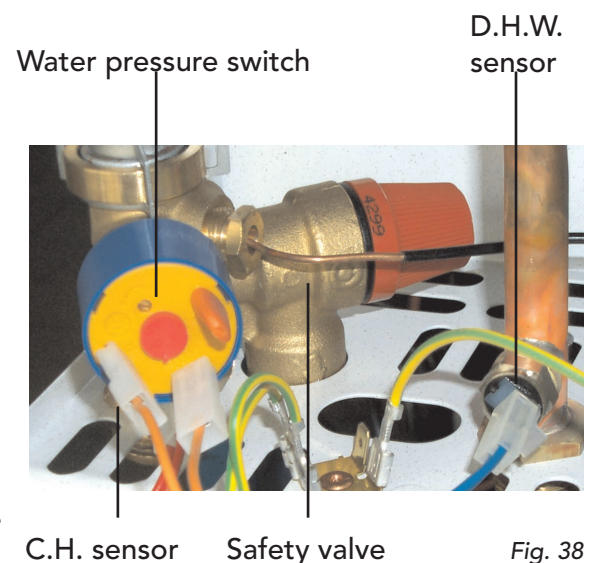

Fig. 38
7.07.1 D.H.W. temperature sensor or Central Heating Temperature Sensor (fig. 38)
- Identify the sensor from figure 38
7.07.2 Water Pressure Switch (fig. 38)
- Identify the switch from figure 38
7.07.3 Safety Valve (fig. 38)
- Identify valve from fig. 38